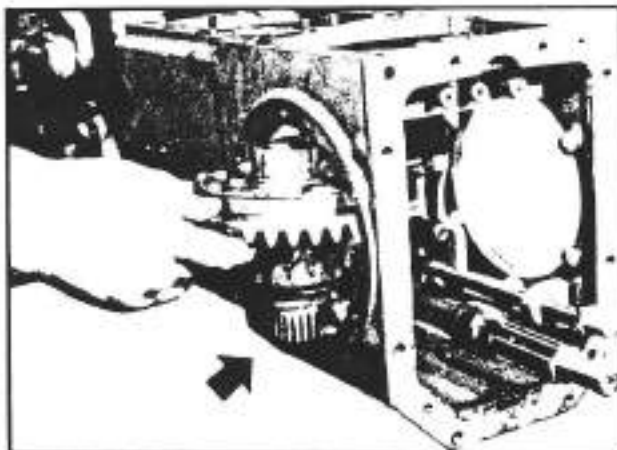

Fig. 3-25. Removal of the differential gear
- Extract the differential group (see figure 3-25).
In this case, the complete differential group can be removed from the top or through the front opening. In figure 3-25, the removal of the group is shown as for the case in which the overhaul does not include the removal of any other part such as the intermediate plate, or the housing cover.